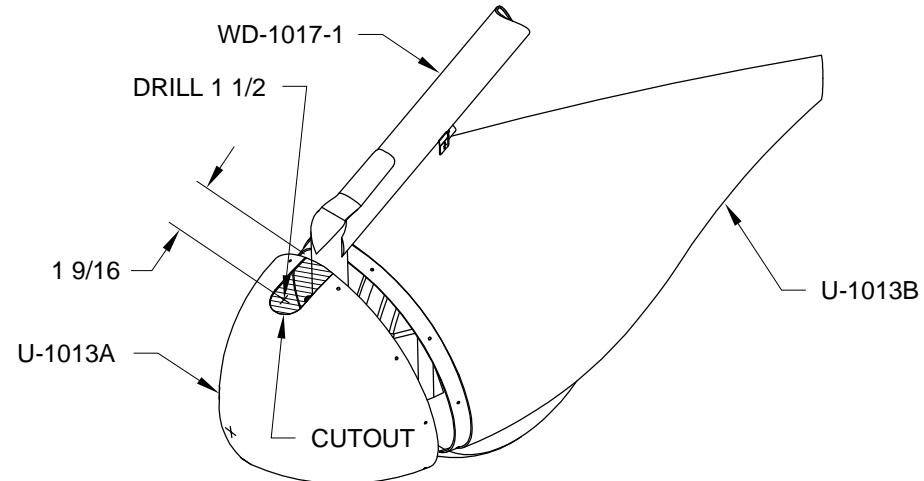

FIGURE 1: CUTTING THE SLOT IN THE WHEEL FAIRING FRONT
Step 1: Measure forward from the aft edge of the U-1013A Wheel Fairing Front the distance shown in Figure 1. Cut the hole with a 1 1/2 Dia. hole saw aligning the hole with the center of the wheel fairing front. Saw forward from the aft edge of the wheel fairing front to meet the tangent points of the hole. Careful work will allow reuse of the piece to fill in the gap over the flange of the wheel fairing rear. Trial fit the wheel fairing front and sand to fit allowing 1/16-3/32 clearance between the cutout edges and the WD-1017-1 Nose Gear Leg Assembly. This slot will be visible so take the time required to do a good job. Cleco the wheel fairing front to the wheel fairing rear.